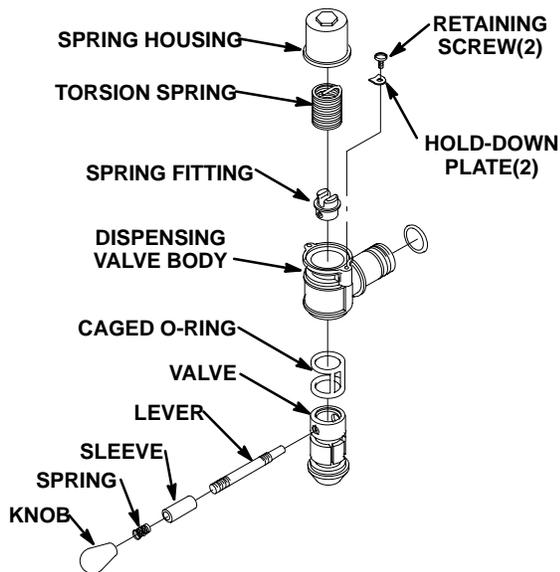
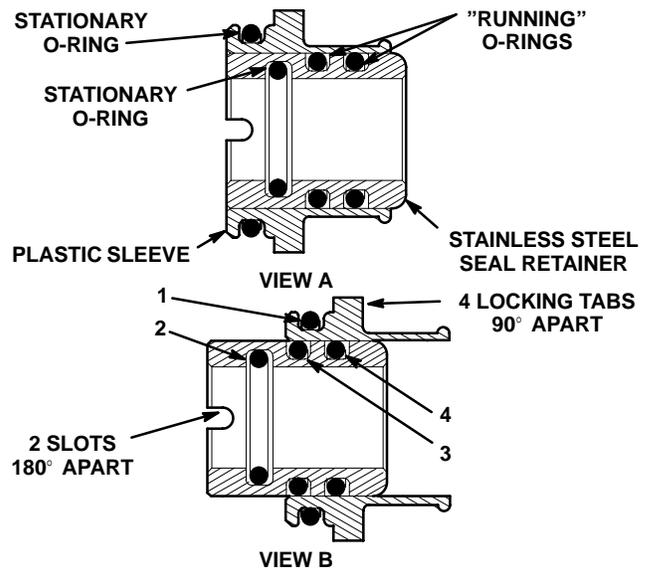

FIGURE 7. SELF-CLOSING DISPENSING VALVE
FIGURE 8. SERVICING BEATER DRIVE SHAFT SEAL ASSEMBLY
Lubricate dispensing valves caged o-rings (see Figure 7) and beaters drive shafts seals assemblies (see Figure 8) each time Unit is sanitized as follows:
1. Remove HEX NUTS (item 7) and FLATWASHERS (item 6) securing FACEPLATE (item 8) to freeze cylinder, then remove faceplate from cylinder.
2. Carefully remove large O-RING (item 5) from FACEPLATE (item 8).
3. Unscrew RELIEF VALVE (item 9) from FACEPLATE (item 8).
4. Disassemble dispensing valve (see Figure 7) as follows:
- C. Remove old lubricant from plastic sleeve and stainless steel seal retainer (see Figure 8) with paper towels. Do not scrape the sleeve. Wash sleeve, retainer, and socket and back of freeze cylinder in warm water.
- F. Slide stainless steel seal retainer in plastic sleeve until “running” O–ring No. 3 is just covered by plastic sleeve, as shown in View B of Figure 8.